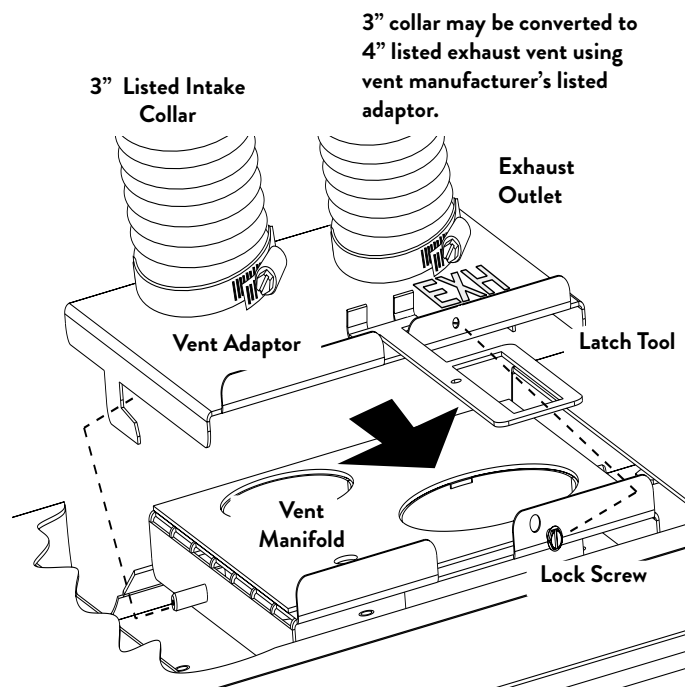

Figure 6.3. Vent Adaptor assembly.
1. Refer to fig. 6.3. Remove the lock screw from the Vent Adaptor panel and detach it from the firebox. Keep the screws for reinstallation.